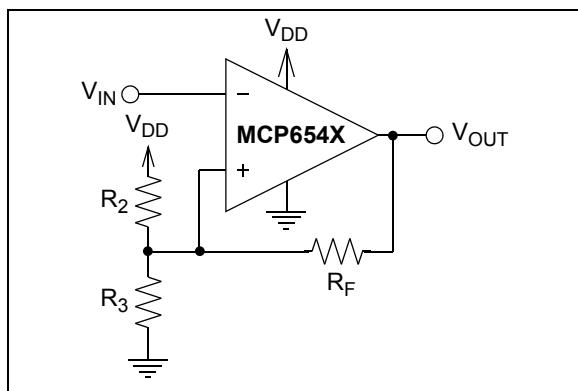
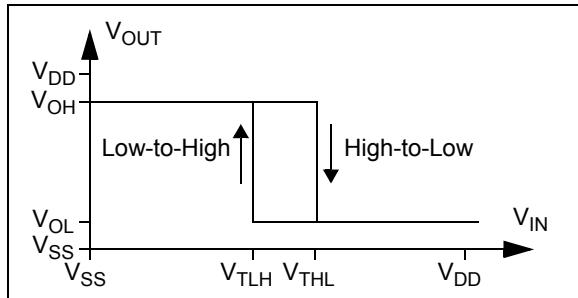
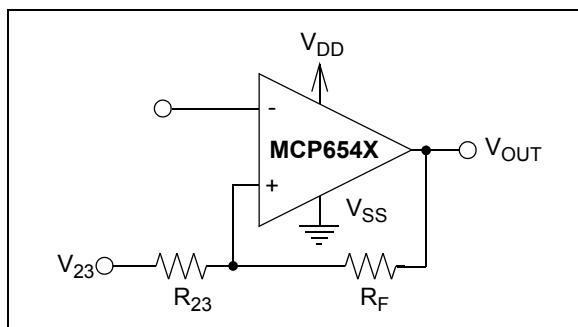

FIGURE 4-6: Inverting Circuit With Hysteresis.
FIGURE 4-7: Hysteresis Diagram for the Inverting Circuit.
FIGURE 4-8: Thevenin Equivalent Circuit.
Figure 4-6 shows an inverting circuit for single-supply using three resistors. The resulting hysteresis diagram is shown in Figure 4-7.
In order to determine the trip voltages ( $V_{THL}$  and  $V_{TLH}$ ) for the circuit shown in Figure 4-6,  $R_2$  and  $R_3$  can be simplified to the Thevenin equivalent circuit with respect to  $V_{DD}$ , as shown in Figure 4-8.
1. Inverting Configuration (Figures 4-6 and 4-9):